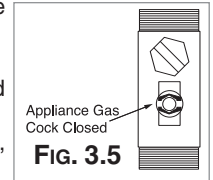

FIG. 3.5
- the gas cock is closed (Fig. 3.5);